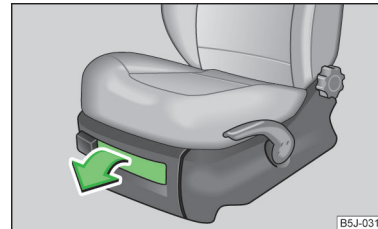

Fig. 87
- Pull the handle to open the lid » Fig. 87.